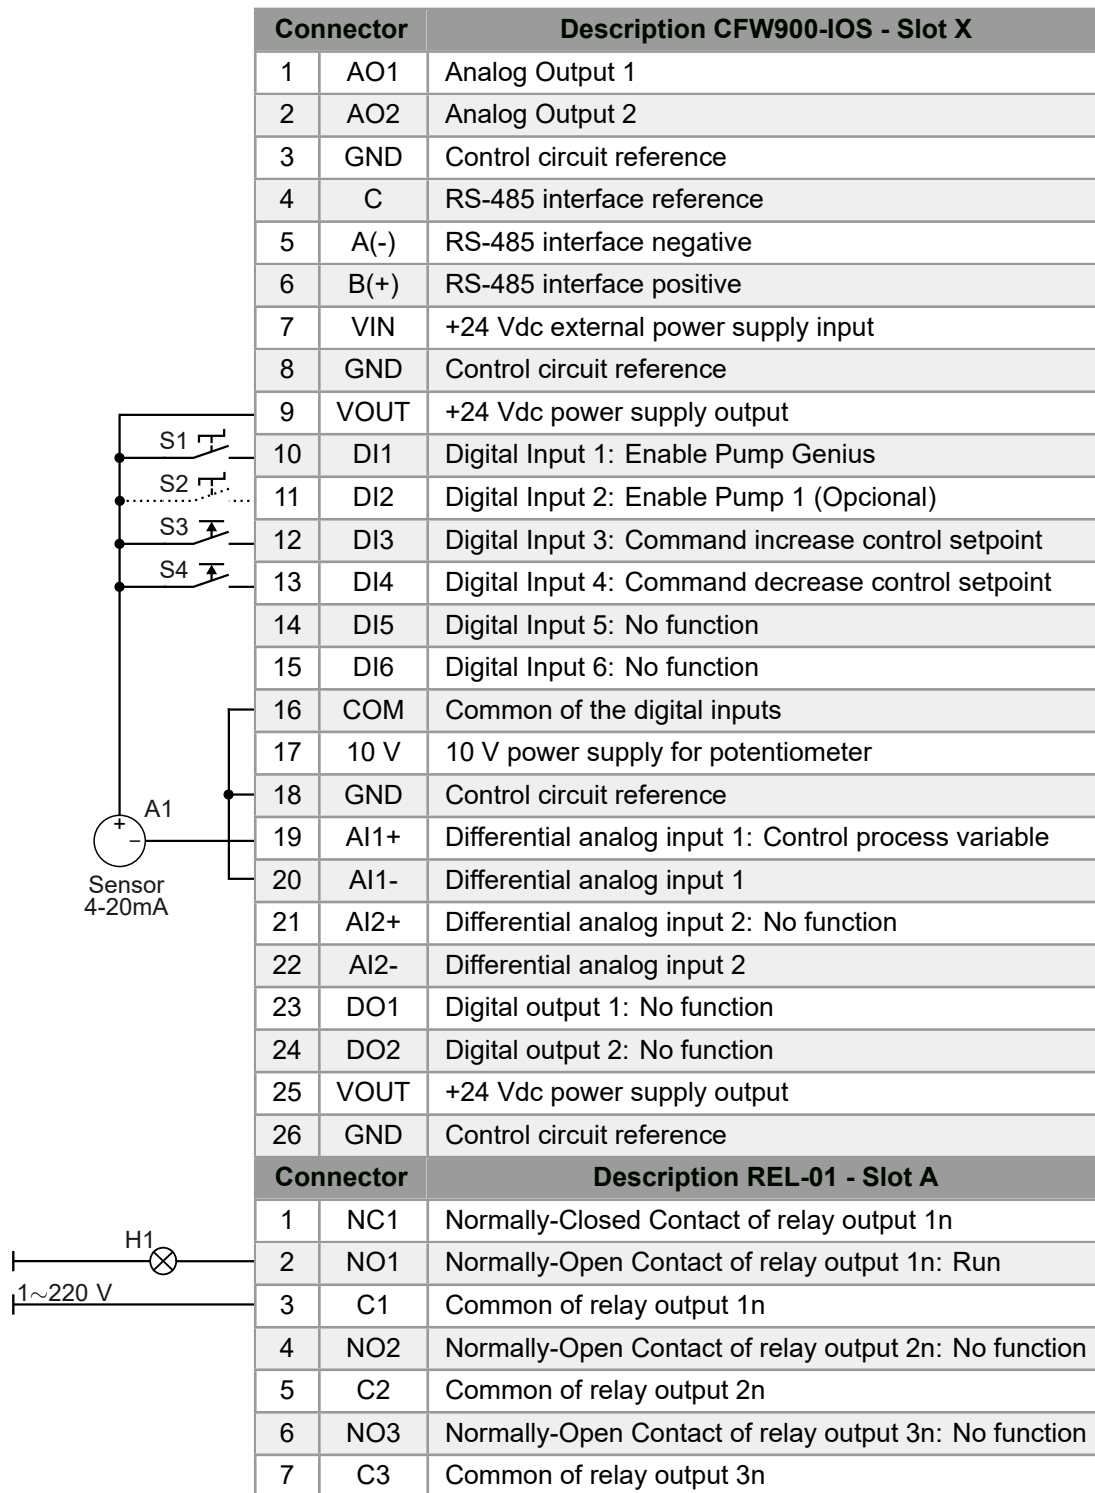

Figure 3.6: Signals on connectors of the IO modules for control setpoint via electronic potentiometer (EP)
The Figure 3.6 on page 3-7 presents the control connections (analog inputs/outputs, digital inputs/outputs) that must be made to the connectors of the IO modules of the CFW900 frequency inverter to have the control setpoint adjusted via electronic potentiometer (EP).